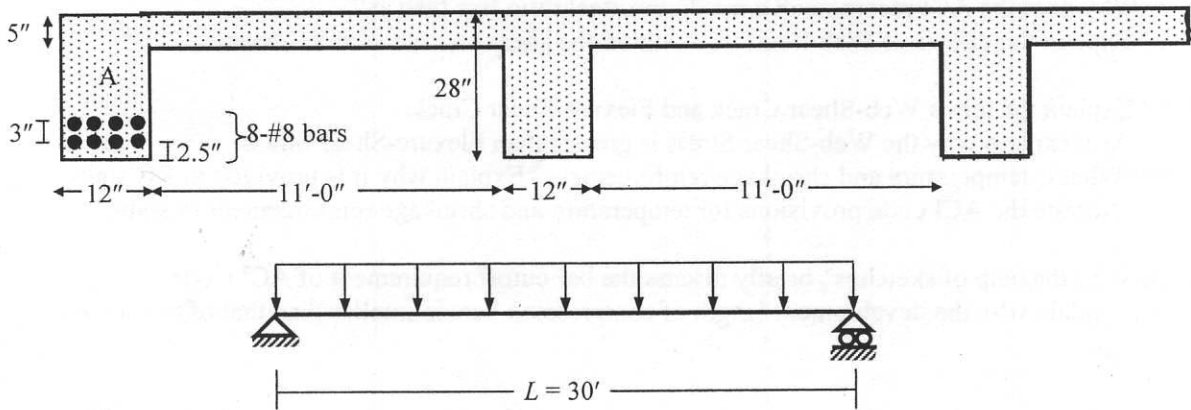

Fig. 4
- Determine ultimate design moment for the "L" beam (marked A) as shown in Fig.4 and determine the allowable live load on the slab.  $FF=30$  psf, Random Wall Loads= $30$  psf. Use USD method.